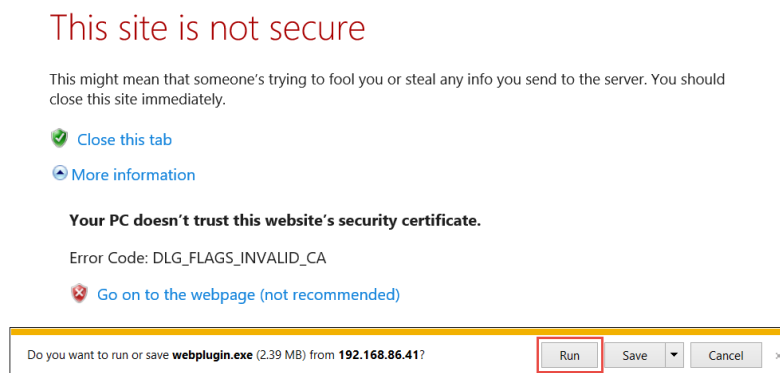
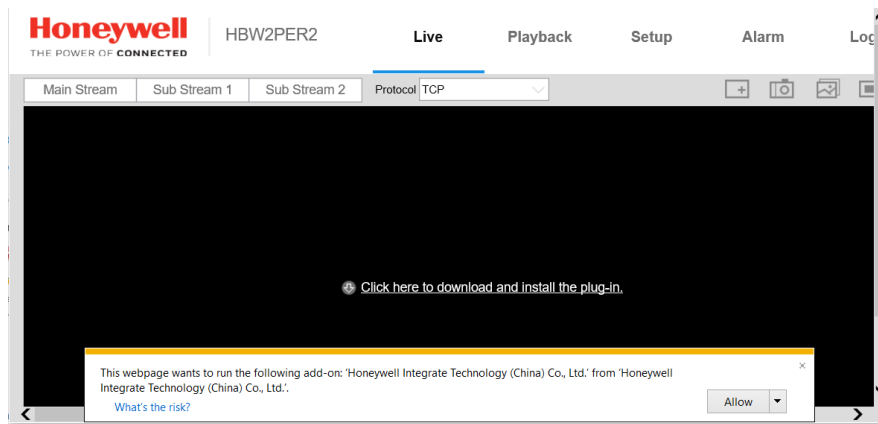

Fig. 4.4
Fig. 4.5
3. If you are asked if you want to install a plug-in, click on "Run." See Fig. 4.4 and Fig. 4.5. If not, go to Step 6.